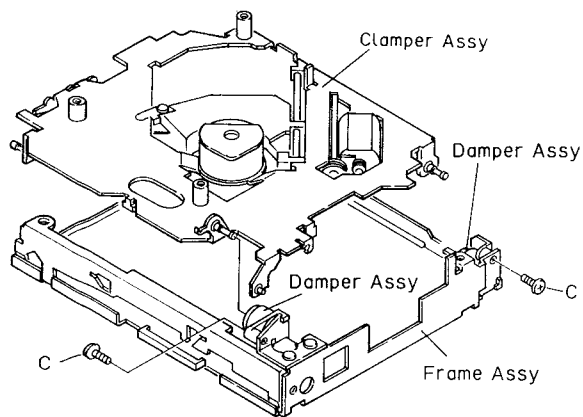

Fig.15
- 7.Remove the frame assy from the mechanical parts. (Fig.15)
- 8.Remove the two screws C, and then remove the damper assy.(Fig.15)
- 9.Remove the clamber assy as shown in Fig.15.